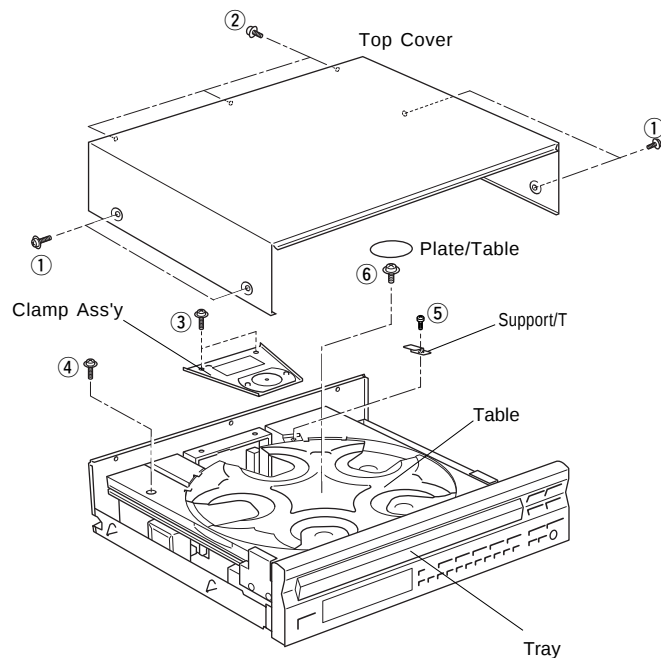

Fig. 1
- a. Remove 4 screws (①) and also 3 screws (②) as shown in Fig. 1.
- a. Remove 2 screws (③) as shown in Fig. 1.
- a. Remove 1 screw (④) as shown in Fig. 1.
- a. Remove 1 screw (⑤) and then remove the Support/T as shown in Fig. 1.
b. Remove the Plate/Table as shown in Fig. 1.
c. Remove 1 screw (⑥) and then take off the Table as shown in Fig. 1.